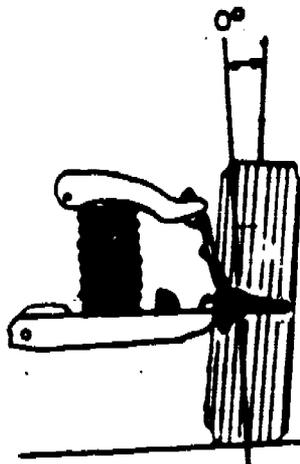

Figure 1
- 1. Figure 1 shows _____ a. negative camber.